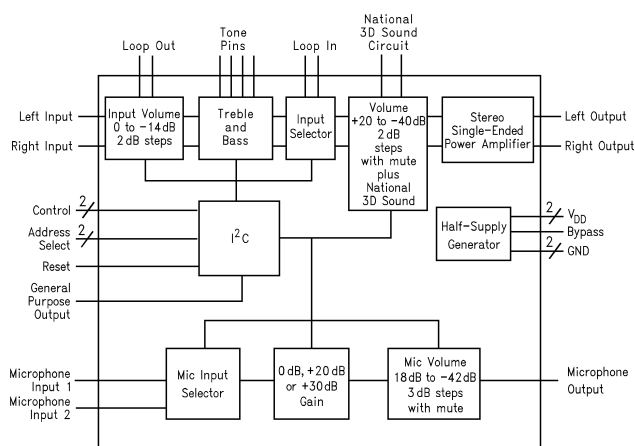

Figure 1. LM4832 Block Diagram
(1) All voltages are measured with respect to the ground pins, unless otherwise specified. All specifications are tested using the typical applications shown in Figure 1.
(2) Typical values are measured at 25°C and represent the parametric norm.
(3) Limits are ensured AOQL (Average Outgoing Quality Level).
(4) Data sheet min and max specification limits by design, test, or statistical analysis.